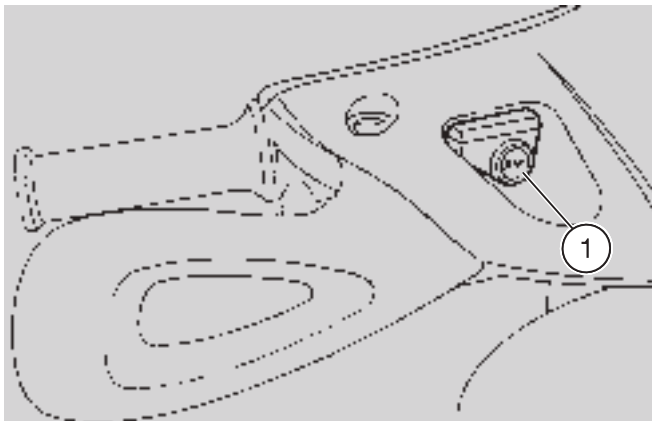

Fig. 15
- ◆ Incline the vehicle, so that the fluid contained in the tank is parallel to the "MIN" mark stamped on the glass (1-Fig. 15).
- ◆ Fill the tank with brake fluid, see p. 81 (LUBRICANT CHART), until it covers the glass (1-Fig. 15) completely.